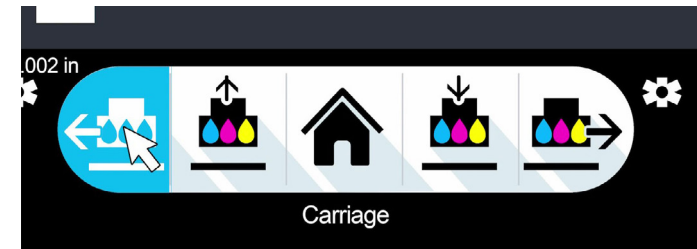

Figure 4-4 Move Carriage Left
5. Click the Move Carriage Left button once to return the carriage to its home position. (Figure 4-4)